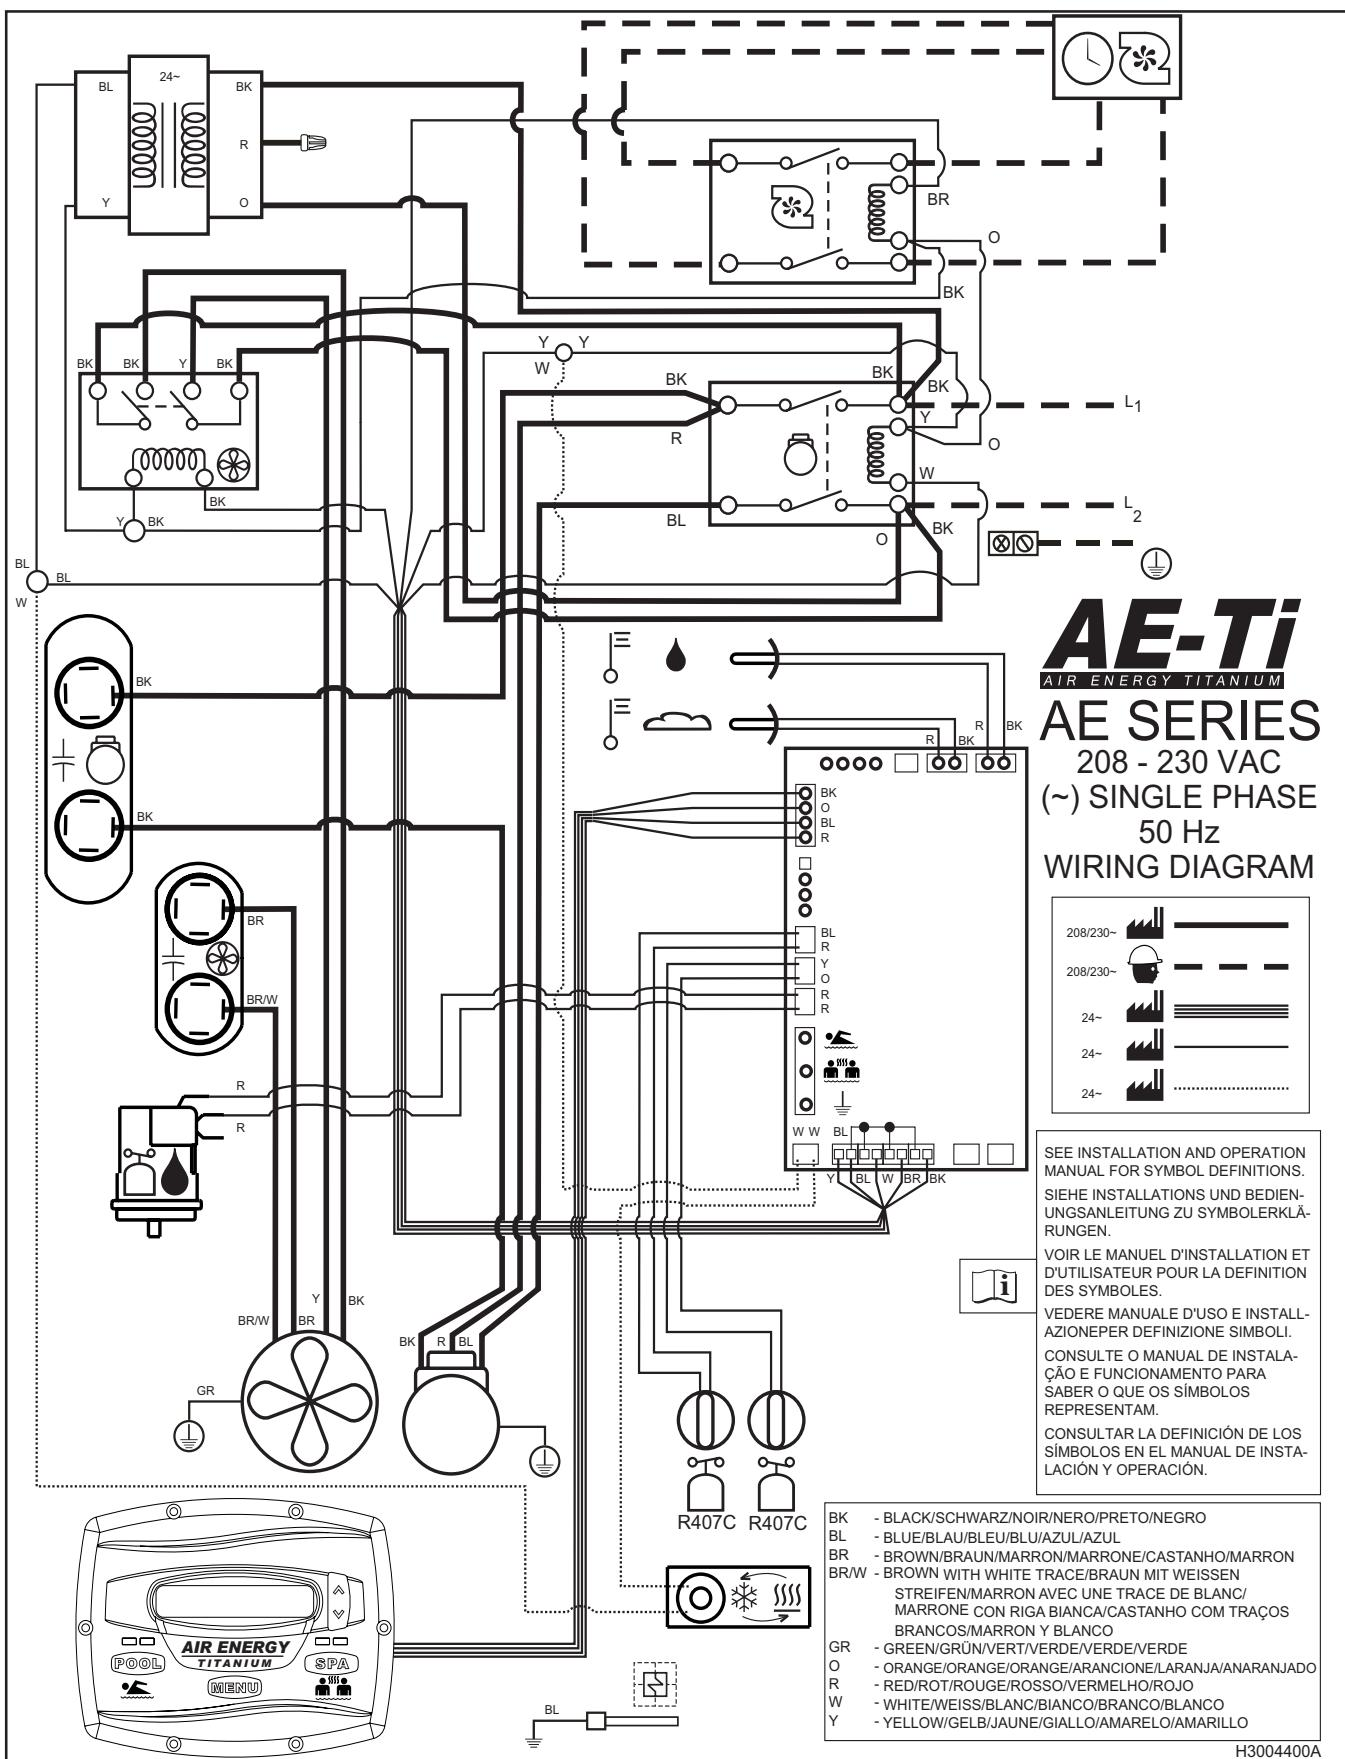
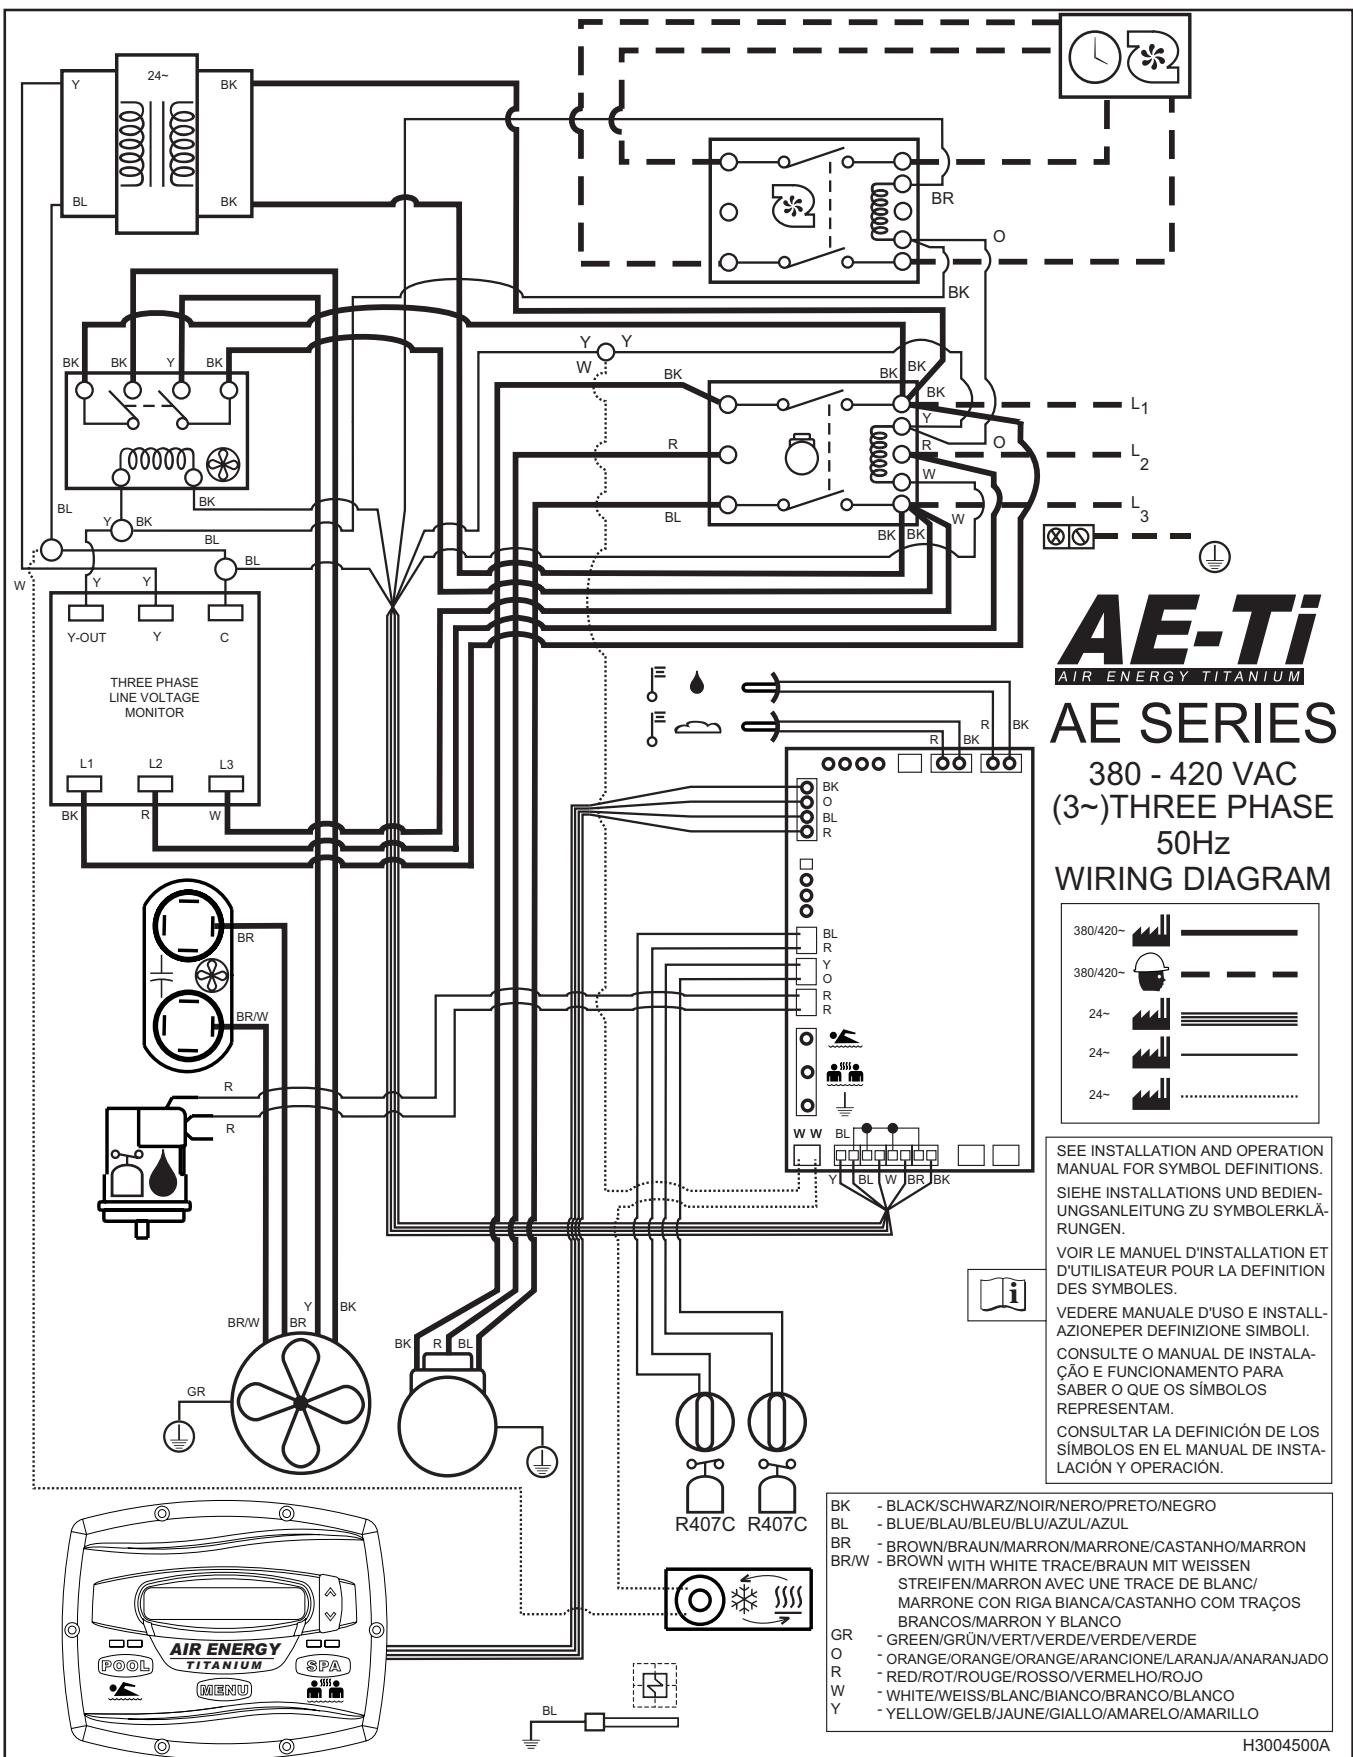

Figure 11. AE-Ti Single-Phase Electrical Supply Wiring Diagram
Figure 12. AE-Ti 3-Phase Electrical Supply Wiring Diagram
Wiring connections must be made exactly as shown in the wiring diagram found on the inside of the heat pump access compartment. See Figure 11 for single phase electrical wiring and Figure 12 for 3-phase electrical wiring (See Figure 13 for electrical wiring diagram symbol definitions).
6. Connect the wires to the terminals on the main contactor as shown in the wiring diagram. Refer to Figures 11 and 12.